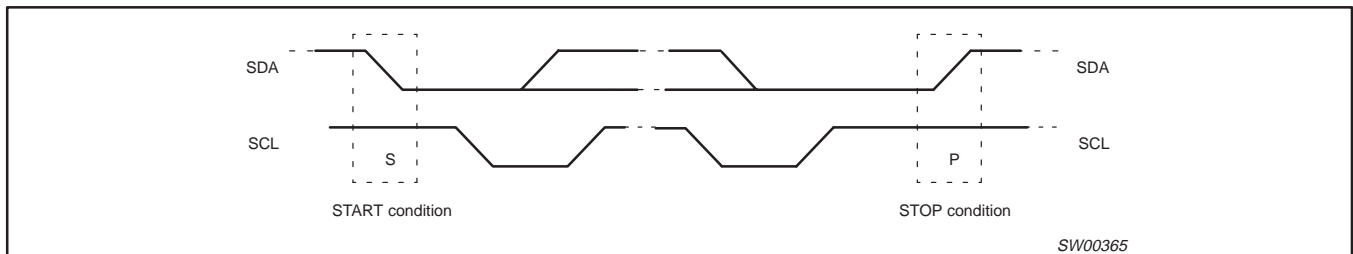

Figure 7. Definition of Start and Stop conditions
Both data and clock lines remain HIGH when the bus is not busy. A HIGH-to-LOW transition of the data line, while the clock is HIGH is defined as the Start condition (S). A LOW-to-HIGH transition of the data line while the clock is HIGH is defined as the Stop condition (P) (see Figure 7).